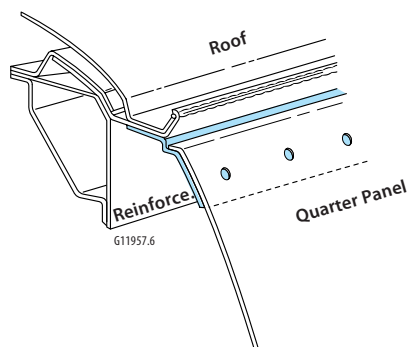

Figure 7-6:
2. Drill 8mm ($\frac{5}{16}$ inch) holes for plug welding along top of the quarter panel 25mm (1 inch) from top edge, 40mm (1½ inches) apart (figure 7-6).